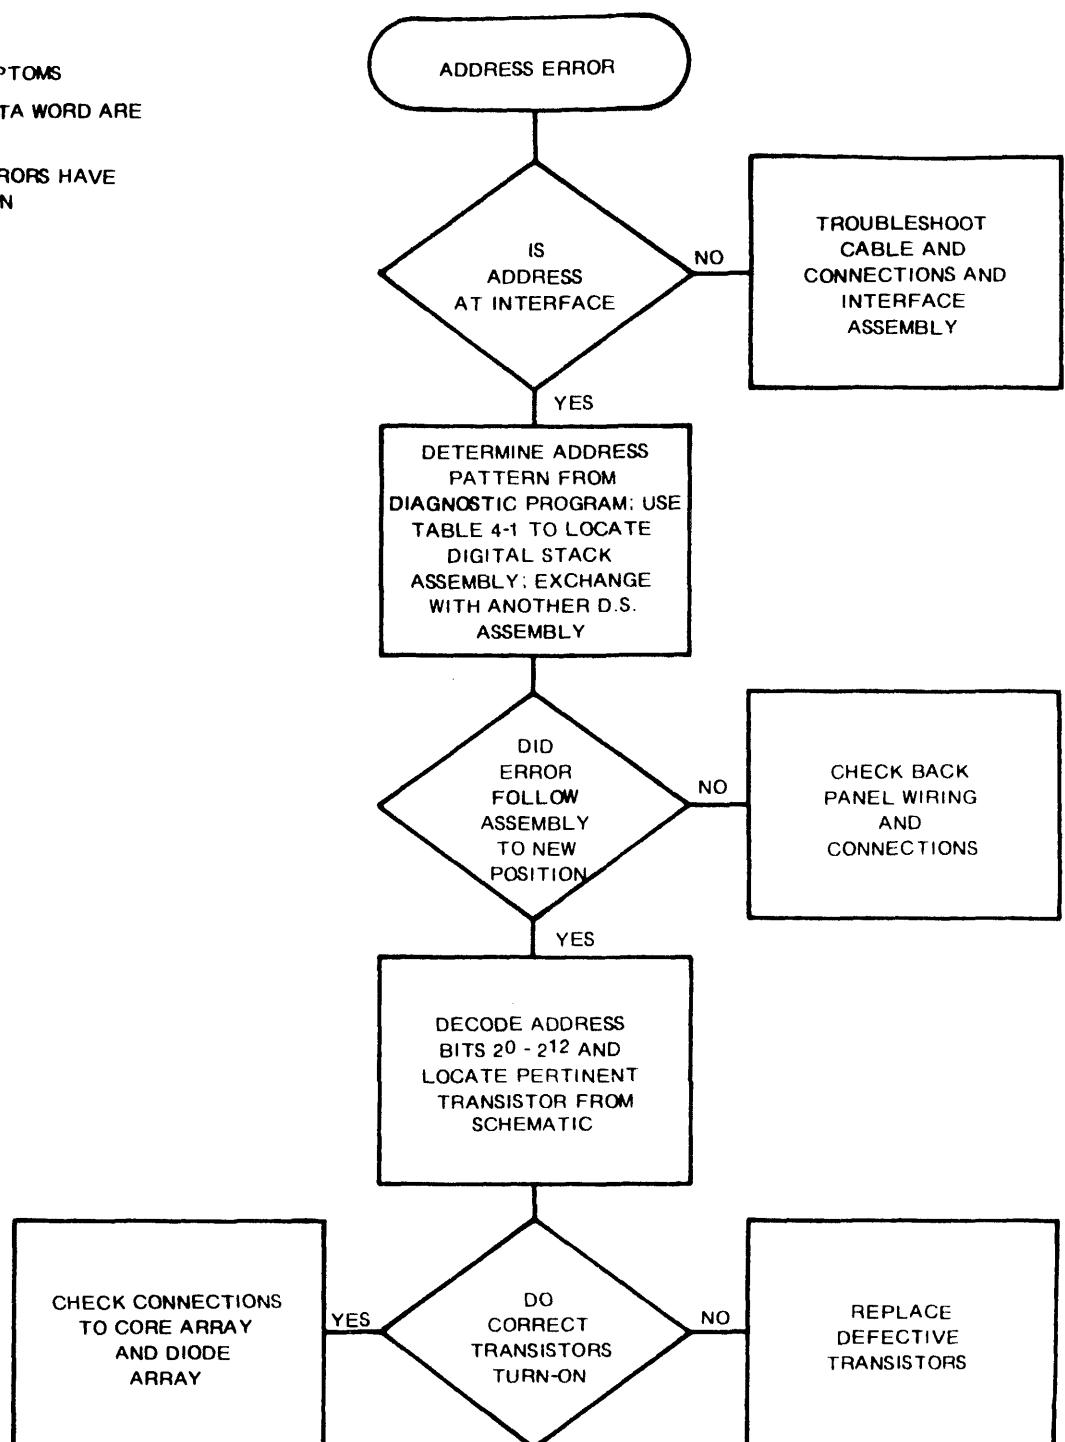
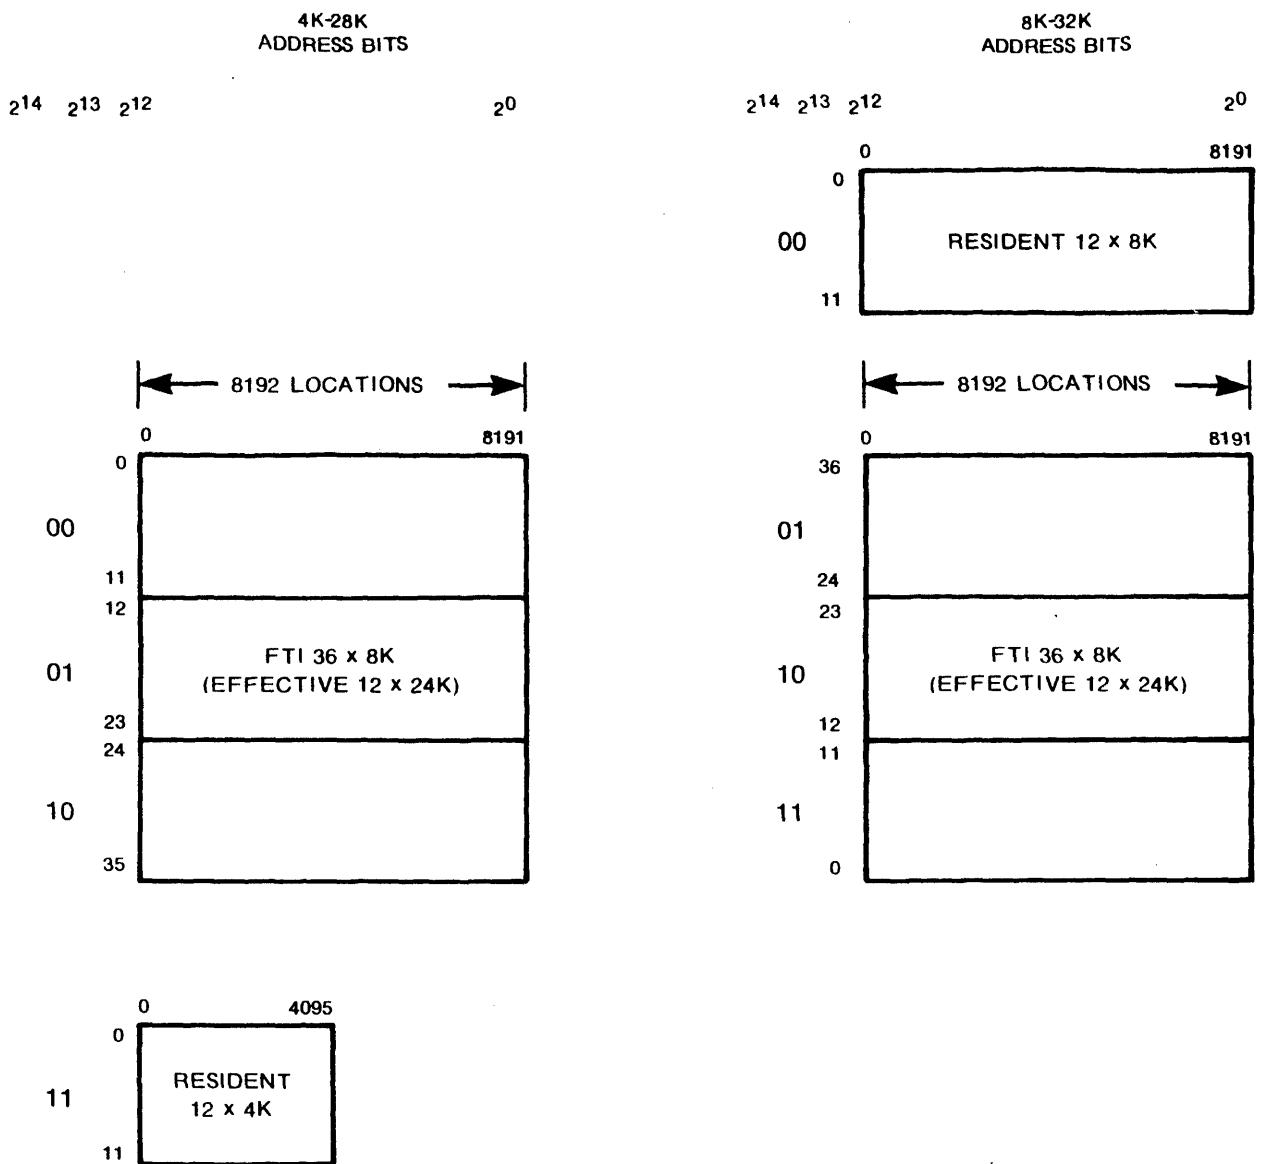

Figure 4-2
Figure 4-3
Address oriented errors originate in the Current Drive section. All bits of a data word in error and addresses of errors with definite patterns are characteristics of address oriented errors. Use Figure 4-2 as an aid to troubleshooting. Figure 4-3 illustrates the configuration of the Core Arrays.
**WORD LOCATION.** Decode address bits  $2^{13}$  and  $2^{14}$  to identify the malfunctioning 12 bits of each 36 bit location in the Core Array. Table 4-1 and Figure 4-3 provide the corresponding bit positions for each decode. The remaining 13 address bits determine the location within the Core Array.